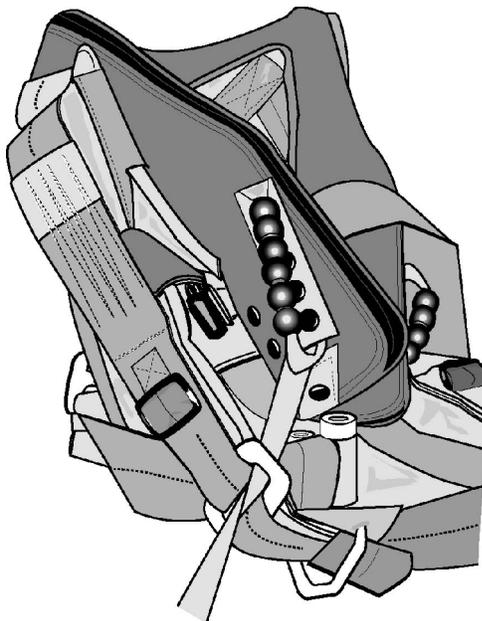

Figure 17. LPU-36 Front Attachment Strap Routing
(4) Repeat for right side.
(5) Turn harness over. Unsnap left attachment strap on LPU-36. Using a fid or equivalent, route attachment strap up through shoulder strap guide and re-snap.
(6) Repeat for right side.
(7) Attach lower left hand attachment strap of the LPU-36 by routing the strap from the inside, through D-ring (Figure 17).